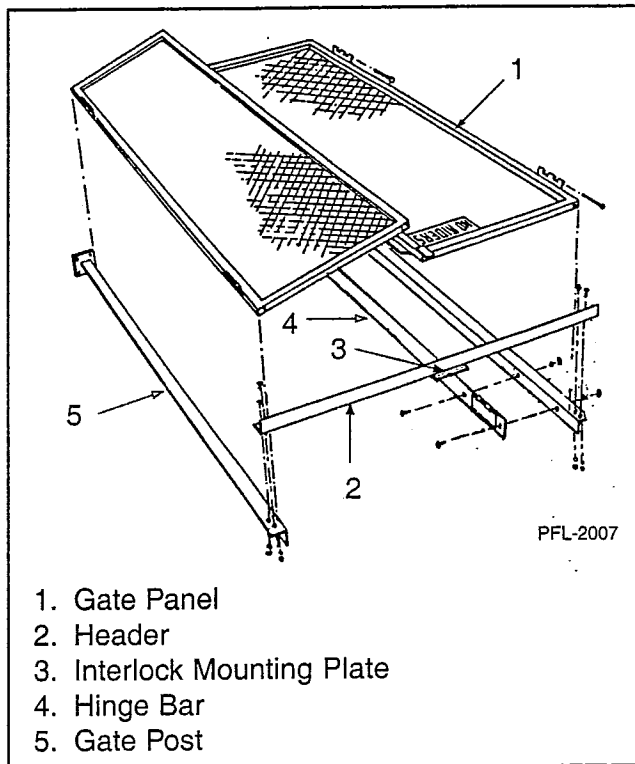

Figure 1
1. Lay the gate posts on the floor parallel to each other. See Figure 1.